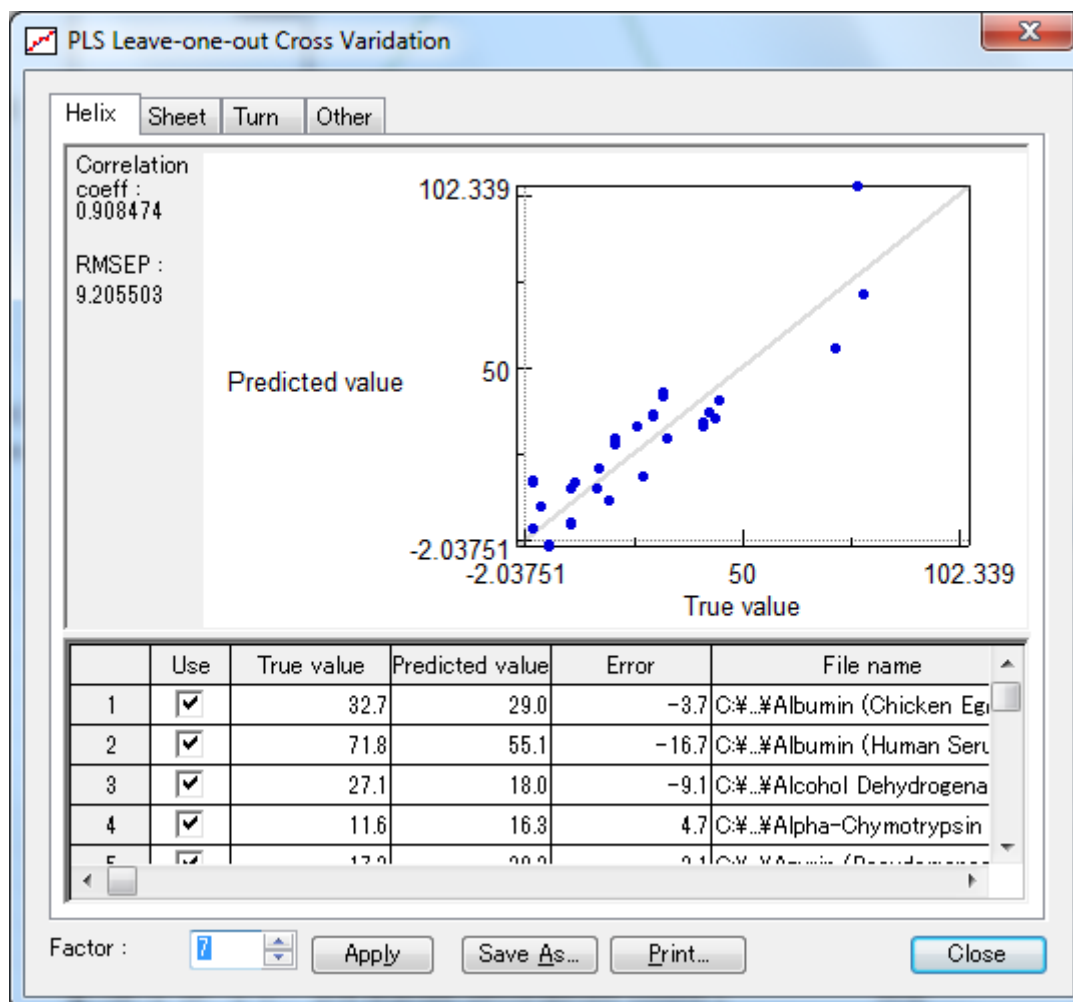

Figure 2.14 [PCR Leave-one-out Cross Validation] dialog box
- (1) Select [PLS] - [Leave-one-out Cross Validation...] from the [Model] menu. The dialog box in Fig. 2.14 is displayed.